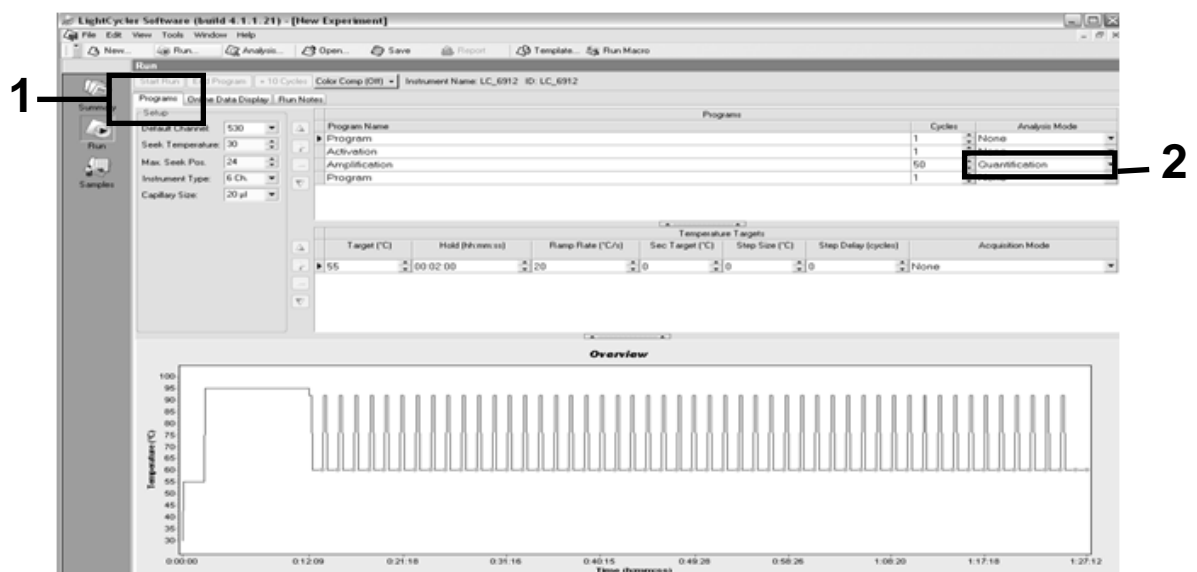

Figure 28. Programming screen for LightCycler 2.0.
10. Program the thermal cycler (Figure 28) with the program as indicated in Table 13.